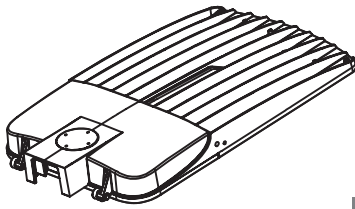

Figure 1
1. Open Fixture Cover (loosen 2 screws). (Fig. 1)